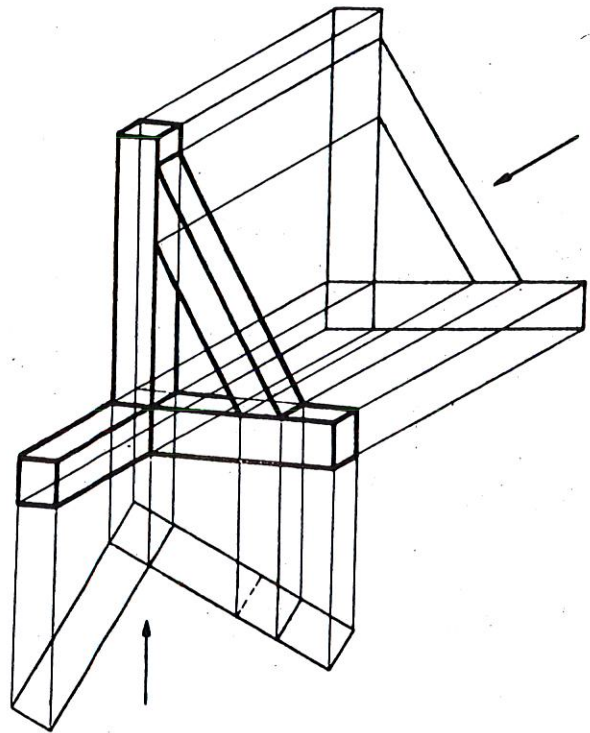

Figure 3
In Figs. 3 and 4, we see two applications of the Eckhart system. The former shows a wooden construction, the latter the intersection of two circular cylinders, i. e., a space curve of fourth degree (twisted quartic.).
If the drawn picture is essentially oblique axonometrical, it has a natural effect only when seen from a given direction at an infinite distance. This direction can be found by a geometrical construction. In that almost exclusive case, coming in question, when the two used projections are on orthographic planes in the same scale, the wanted direction in the space can be determined much more easily, even without auxiliary lines. (Soc. Scient. Fenn., Comm. Phys. -Math. XI. 11). (2) L. Eckhart; "Affine Abbildung und Axonometrie" (Sitzungsberichte d. Akad. Wiss. Wien, Matem. -naturw. Klasse, Abt. IIa, Vol. 146, p. 51-56) and "Ein neues Schragrissverfahren" (Oesterreichs höhere Schule, 1937, x). Figs. 3, 4, 5 are from this publication. Already in 1907 Haeder in his book "Schnellperspektive und Einführung in das technische Zeichnen" had described a method, which is a special case of Eckhart's system, but without argumentation, considering it to be only approximately right.